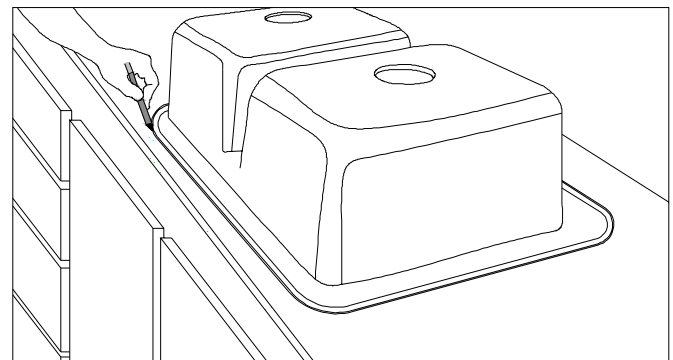

Figure 1B
- Position sink upside down on countertop in desired position. Holding the sink in place, trace completely around outside of sink rim. (FIG. 1B)